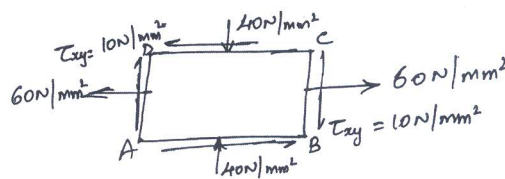

Fig.Q3(b)
- b. A point is subjected to a tensile stress of 60N/mm^2 and a compressive stress of 40N/mm^2 , acting on two mutually perpendicular planes and a shear stress of 10N/mm^2 as shown in Fig.Q3(b). Determine the principal as well as maximum shear stress by Mohr's circle method.